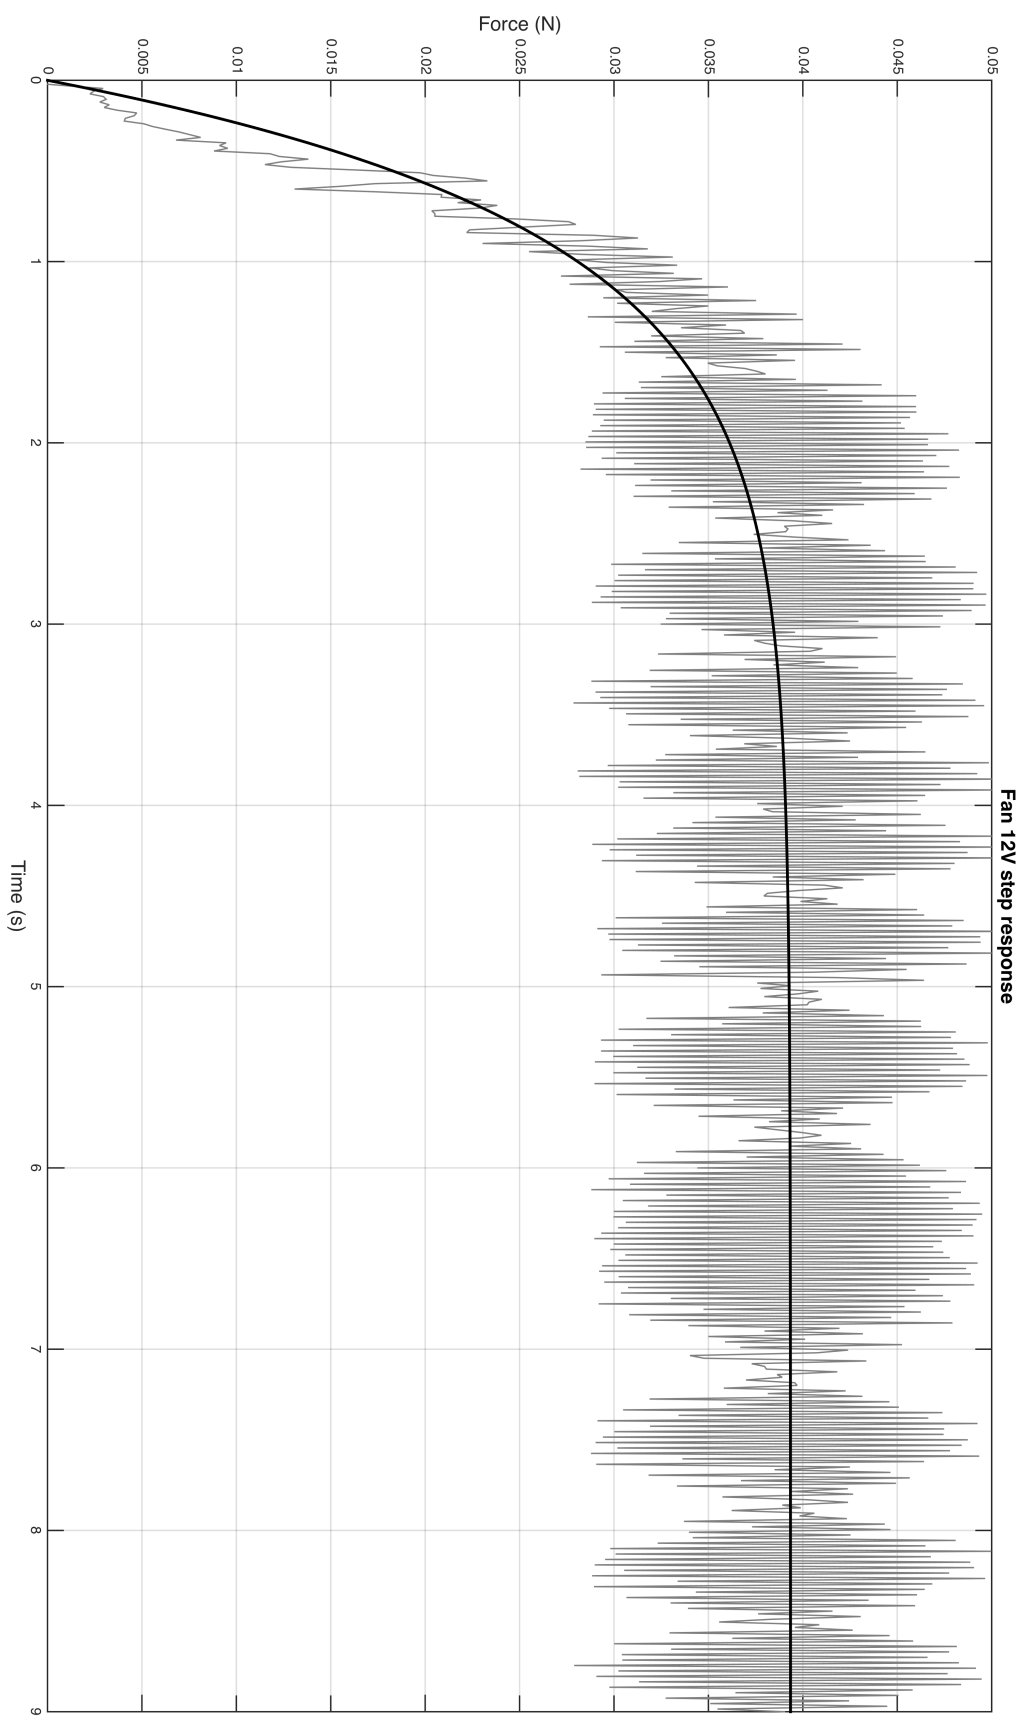

Figure 3:
- ACS336/6336 students: Firstly, use values of `V_ab` and `Fss_ab` obtained from your steady state LabVIEW fan module experiments. Secondly, write a short Matlab script to import and plot your fan step response data (force against time). Then use whatever method you like to identify a first order model that provides good agreement with this data. Justify your choice of model by plotting its step response on the same axes as your raw data (this should look similar to Figure 3 in the back of this handout, and you will be expected to show this to a TA at the end of the exercise). Enter the time constant `tau` of this model into `heli.m`.